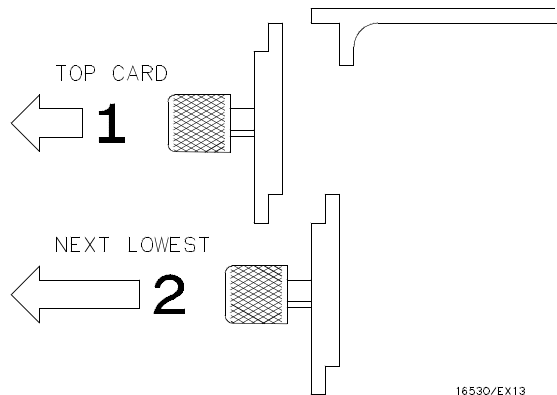

Figure 2-1. Endplate Overlap
- c. Starting **from the top**, begin pulling card(s) and filler panel(s) out **half way**. See figure 2-1.